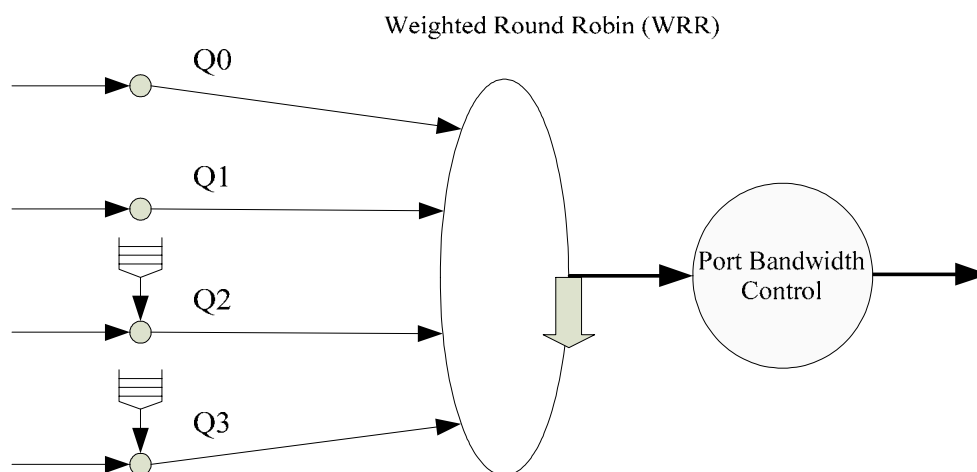

Figure 16. RTL8306G Packet-Scheduling Diagram
- Type I leaky bucket, which specifies the average rate of one queue (see Figure 16; only Q2 and Q3 have leaky bucket, Q0 and Q1 do not)
In addition, the RTL8306G can select one of the two sets of packet-scheduling configurations according to the packet-scheduling mode. Figure 16 shows the RTL8306G packet-scheduling block diagram.